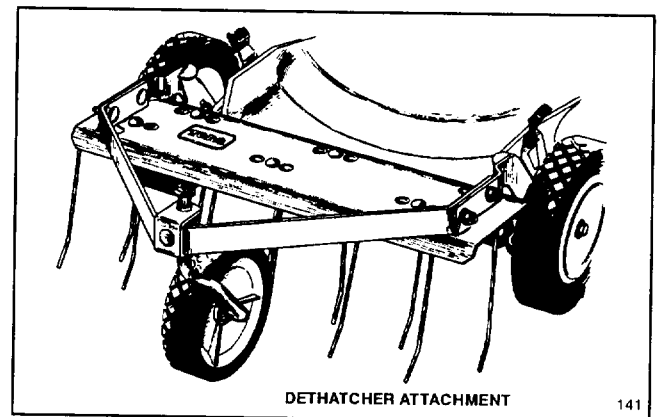

Figure 30
3. **Dethatcher Kit, Model 59131 (self-propelled model only)**—Installs in minutes. Front mounted for easy maneuverability. As spring tines scratch and vibrate through the grass, thatch is loosened and cut and recut by the mower (Fig. 30).